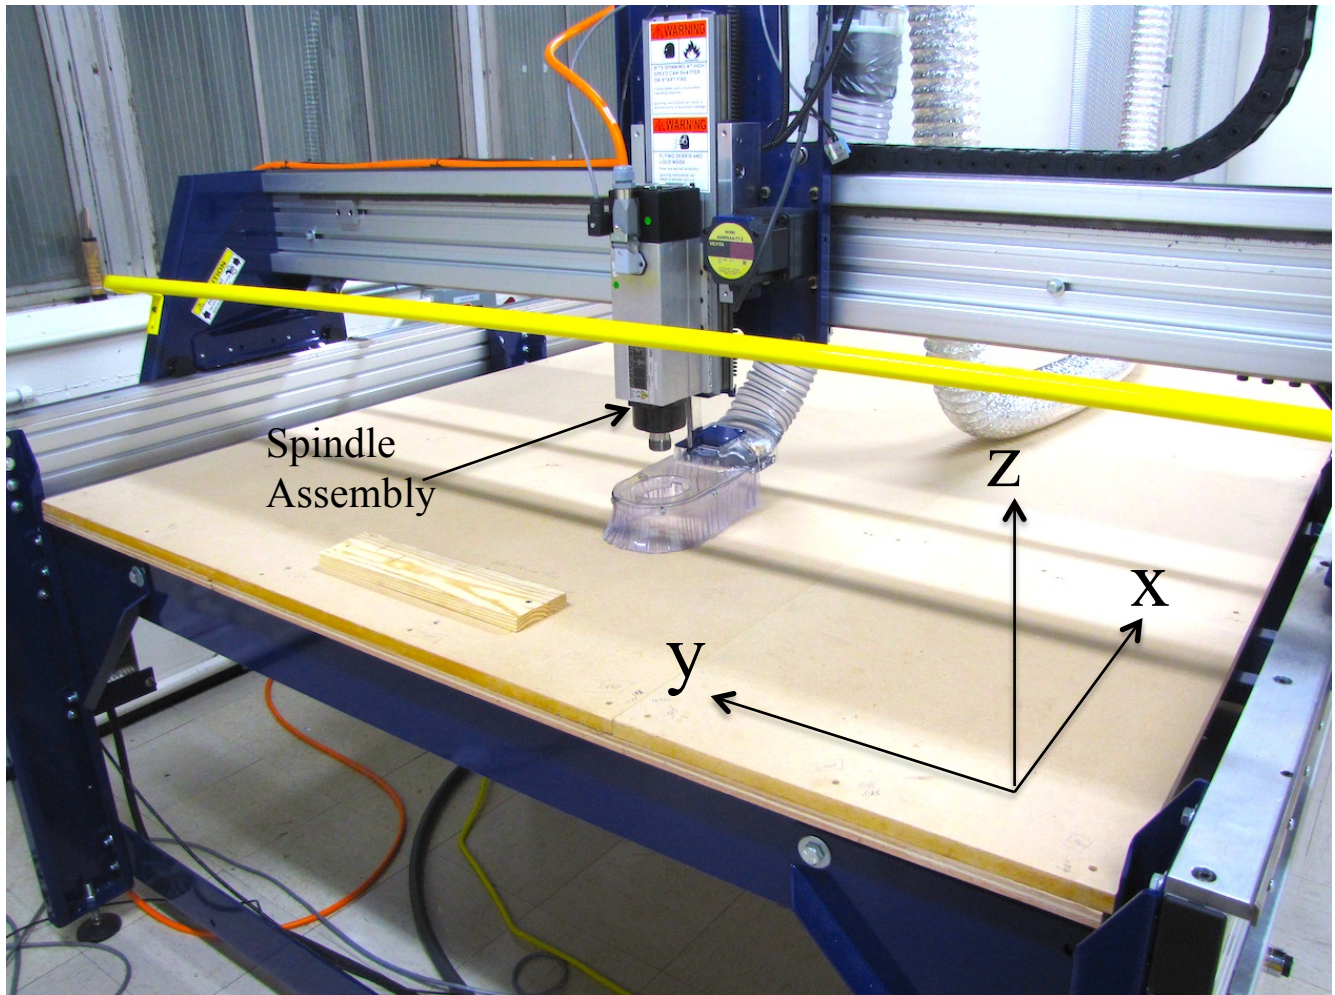
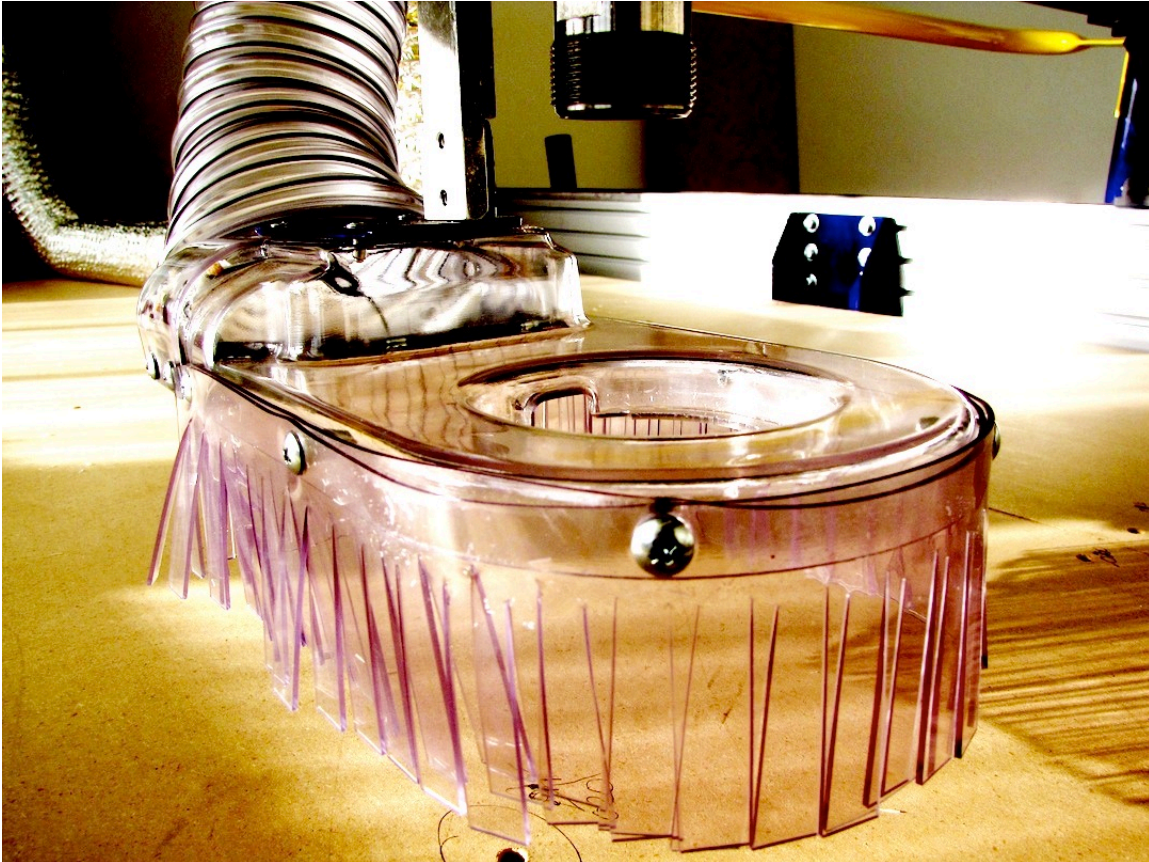

Figure 11: Axes on the ShopBot Table
Figure 12: Dust skirt lowered
15. Unscrew the **THUMB SCREW** (Figure 12) to lower **DUST SKIRT** covering over **SPINDLE**. This makes it easier to access the spindle assembly (Figure 11). See Figures 12-14 to perform this operation.